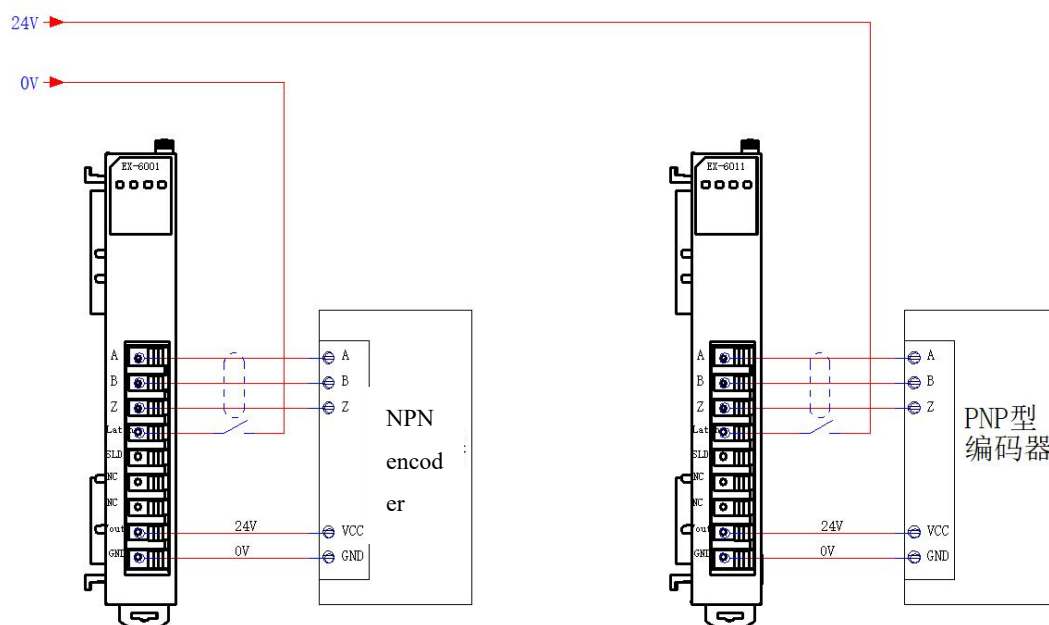

Figure 4-17 Wiring diagram of the EX-6001/EX-6011 encoder module
- Figure 4-17 shows the wiring diagram of the EX-6001/EX-6011 encoder (NPN/PNP) module.